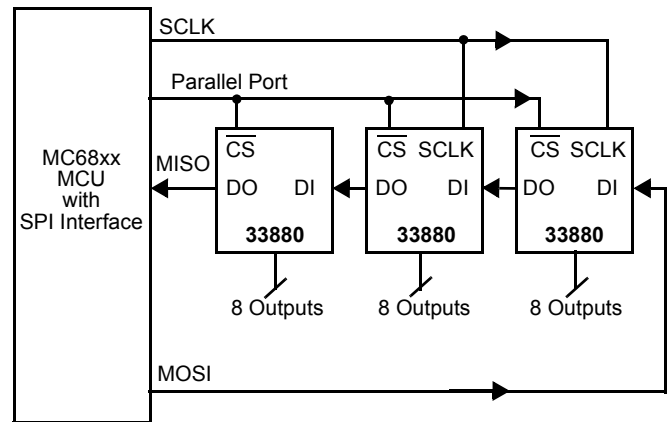

Figure 19. 33880 SPI System Daisy Chain
Figure 19 illustrates the Daisy Chain configuration using the 33880. Data from the MCU is clocked daisy chain through each device while the Chip Select (CS) bit is commanded low by the MCU. During each clock cycle output status from the daisy chain, the 33880 is being transferred to the MCU via the Master In Slave Out (MISO) line. On rising edge of  $\overline{CS}$  data stored in the input register is then transferred to the output driver.